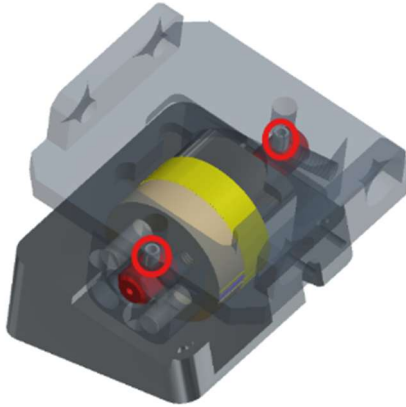
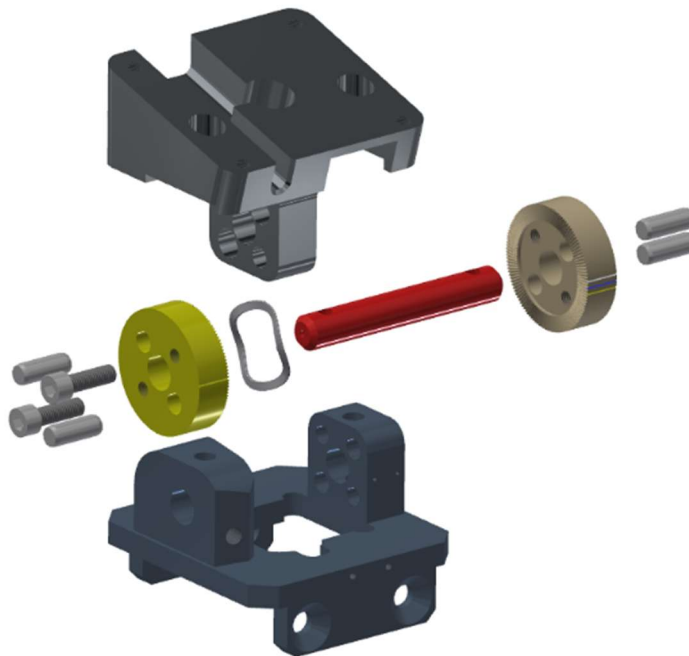

Figure 6-12. Remove the two M4 X 18 LG. Roll Pins from the bottom of the Neck Posture Adjustment Base Plate (474-3051)
Figure 6-13. Slide the Neck Adjustment Pivot Pin (474-3057) from the Gear Assembly (474-3059)
- 6.2.5 Remove the two M4 X 18 LG. Roll Pins from the bottom of the Neck Posture Adjustment Base Plate (474-3051) (Figure 6-12). Ensure the two plates are level so that the roll pin can be removed easily from the other plate. Slide the Neck Adjustment Pivot Pin (474-3057) from the Gear Assembly (474-3059) (Figure 6-13).